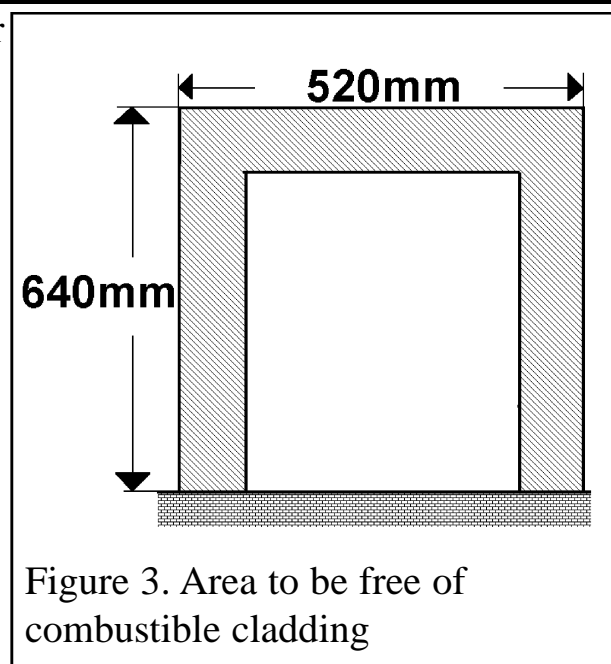

Figure 3. Area to be free of combustible cladding
**4.17** If the fire is to be fitted against a wall with combustible cladding, the cladding must be removed from the area shown in figure 3.